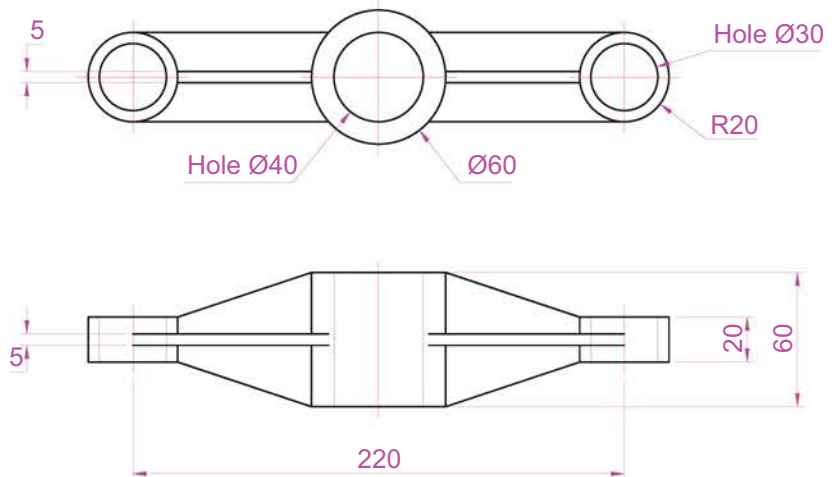

Fig. 11.21 First example – Slice – the two-view drawing
1. Construct a 3D model of the rod link device shown in the two-view projection Fig. 11.21 on a layer colour green.